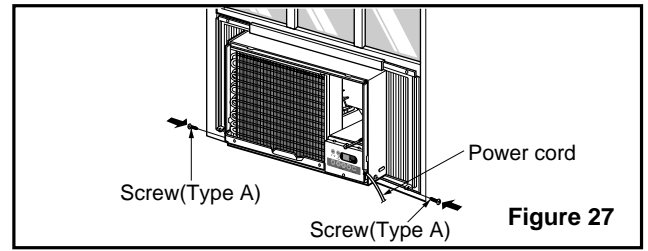

Figure 27
10. Slide the unit into the cabinet.(See Fig. 27)
11. Cut the foam-strip ⑧ to the proper length and insert between the upper and lower window sash.